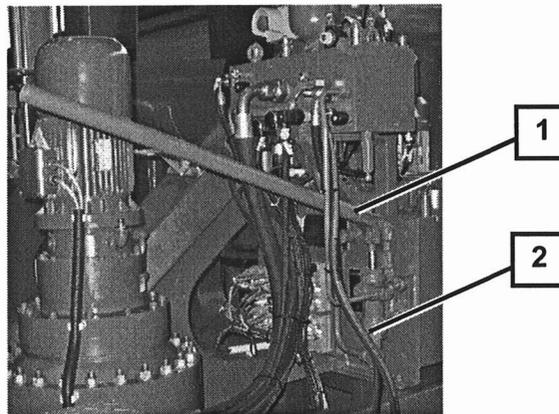

Fig. 41 Hydraulic unit of turbine class K06
- If no system pressure is available: Attach the extension pipe to the hand pump of the hydraulic unit and build up pressure by pumping so that the roof opens, see Fig.41